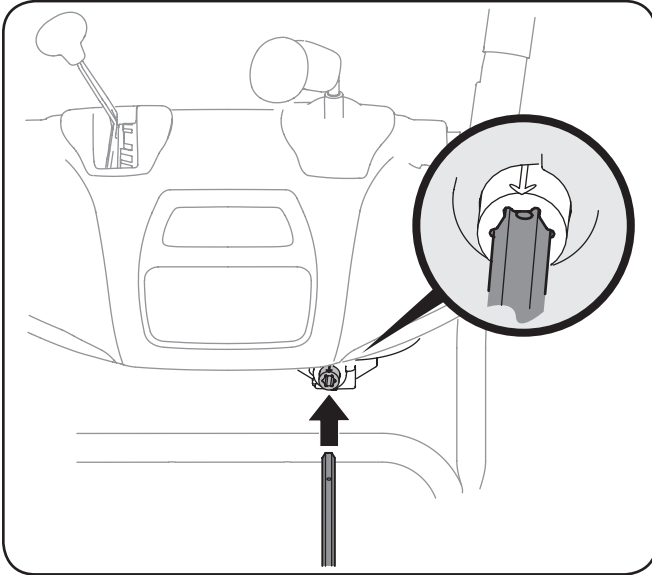

Figure 3-8
- Insert the hex rod into the pinion gear below the joystick. Make sure to line up the hole in the hex rod with the arrow on the pinion gear. See Fig. 3-8.